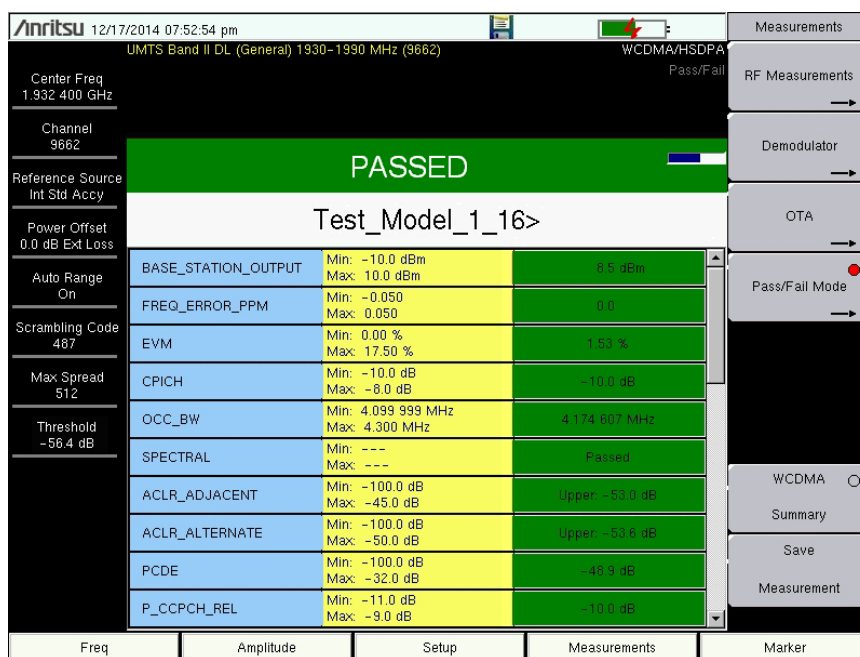

Figure 3-13. Pass/Fail Mode
4. Press the Select Pass/Fail Test submenu key and select the applicable Test Model to activate the measurement (Figure 3-13).